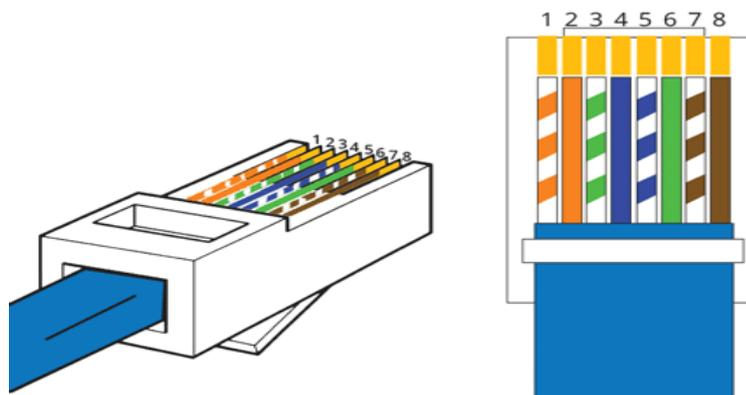

Figure 1
- 24) Colours and pin numbers are shown in the Figure 1.